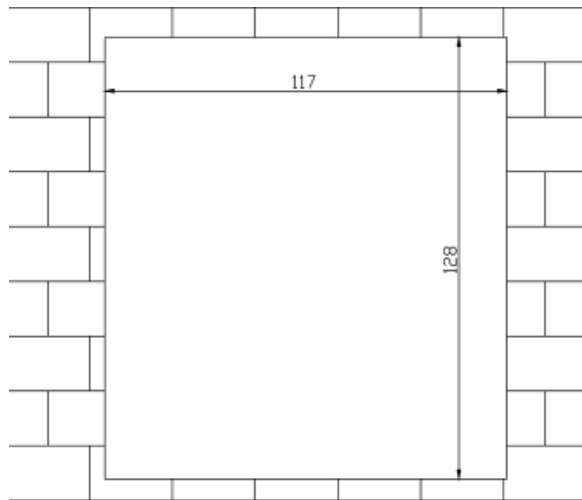

Figure 5- 4
b) Embed metal bracket into wall until its four peaks lean against the wall. See Figure 5- 2.